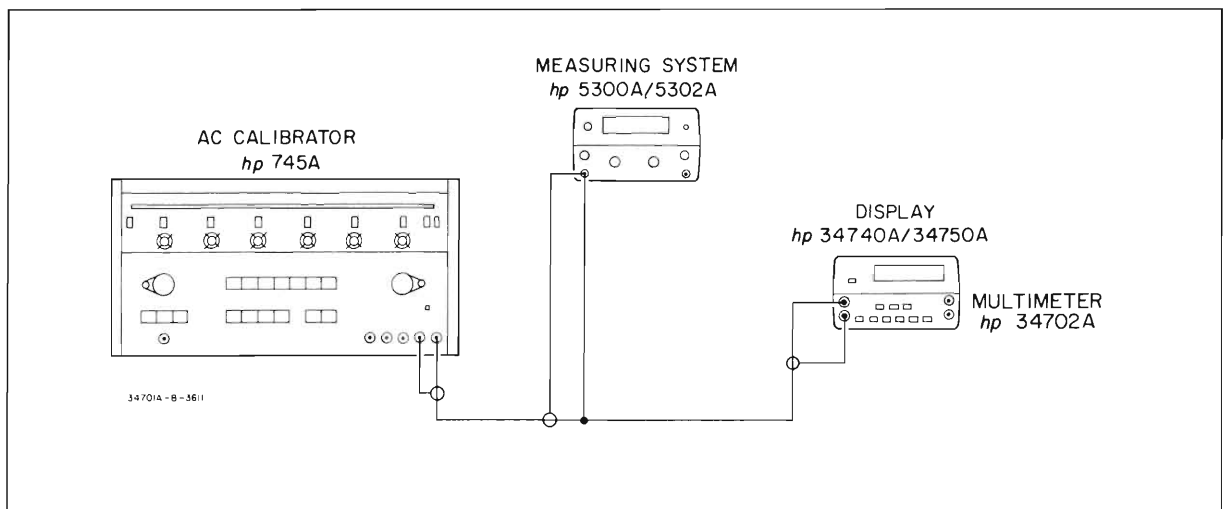

Figure 5-3. Normal Mode Rejection.
a. Disconnect all previous connections to the 34702A input and connect the equipment as shown in Figure 5-3. Set the Model 34702A to DCV and the 1 V range.